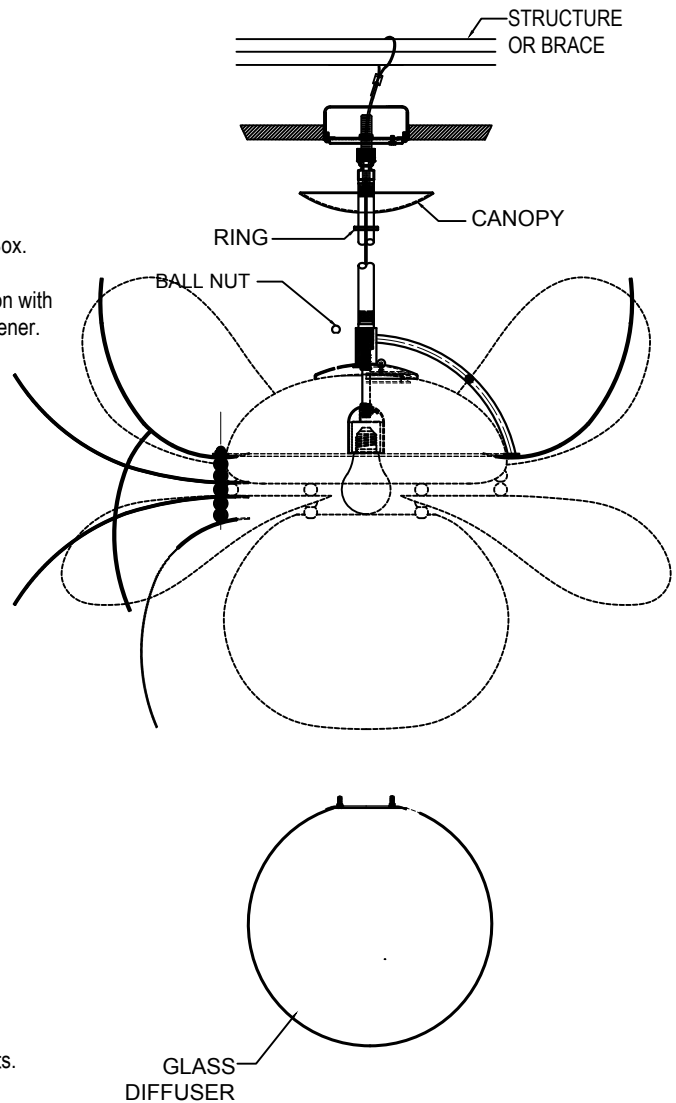

FIGURE-02
- Lift the canopy and the swivel ring up the stem. Tighten the ring to hold the canopy in place. (See Figure-02)